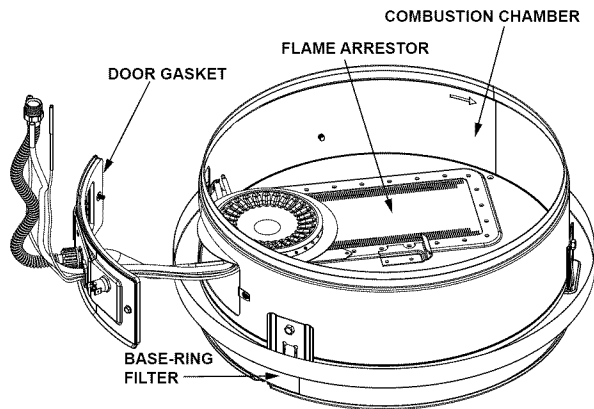

FIGURE 34.
1. At least annually, check the base-ring filter (Figure 34) for any dust or debris that may have accumulated on the filter screen. NOTE: If the water heater is located in an area that is subjected to lint and dirt, it may be necessary to check the base-ring filter more frequently.
2. Use a vacuum cleaner/shop vac to remove all loose debris in the combustion chamber (Figure 34). Use compressed air to clear any dust or debris that may have accumulated in the flame-arrestor.
1. Check the door gasket for damage or imbedded debris prior to installation (Figure 34).
4. Inspect the door gasket and make sure there is no fiberglass insulation between the gasket and the combustion chamber (Figure 34).